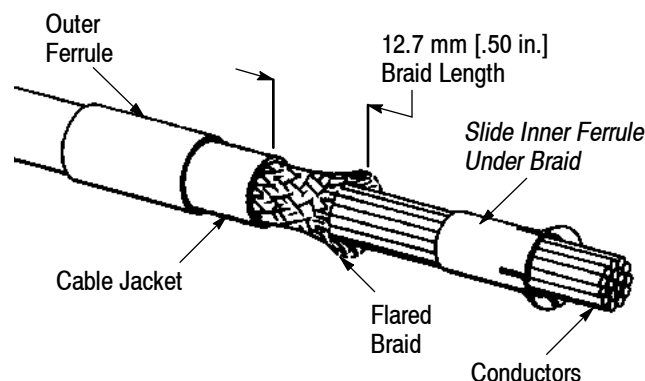

Figure 6
3. Cut the braid approximately 12.7 mm [.50 in.] from the end of the cable jacket. See Figure 6.